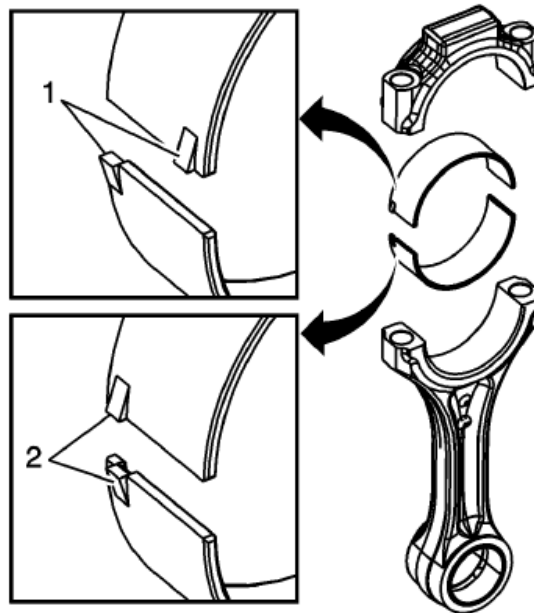

Figure 1. Identifying First & Second Design Connecting Rod Bearings
The position of one of the two bearing locating notches in the connecting was moved to the same side as the other one. So now, in the field there may be either design used. There is first design (1) and second design (2) connecting rod bearings and rods as shown in Figure 1 below. Install the connecting rod bearings with the notches orientated as shown.